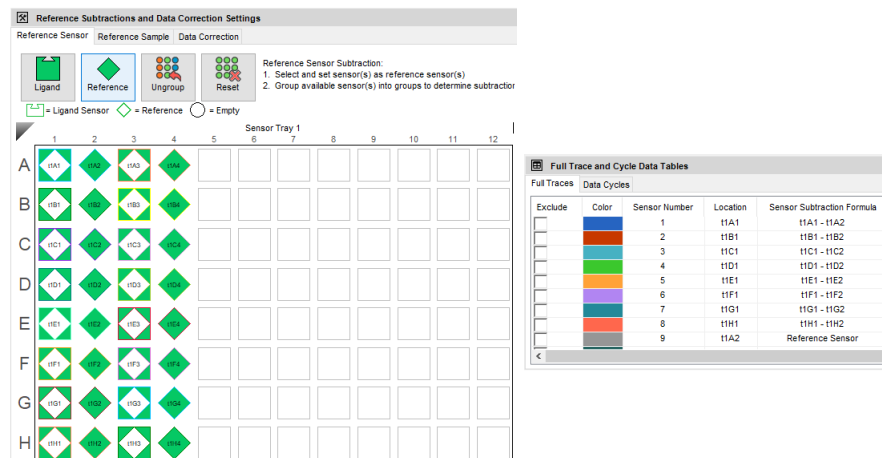

Figure 4-23: Group Reference By Pairs Left and Full Traces Table Subtraction Formula
- **By Pairs Left** - Groups reference and ligand biosensors in pairs and assumes that the reference biosensors are to the right of the ligand sensors. For example, if your ligand biosensors are in column 1 and 3, and the reference biosensors are in column 2 and 4, this subtracts A2 from A1, A4 from A3, and so on (Figure 4-23).